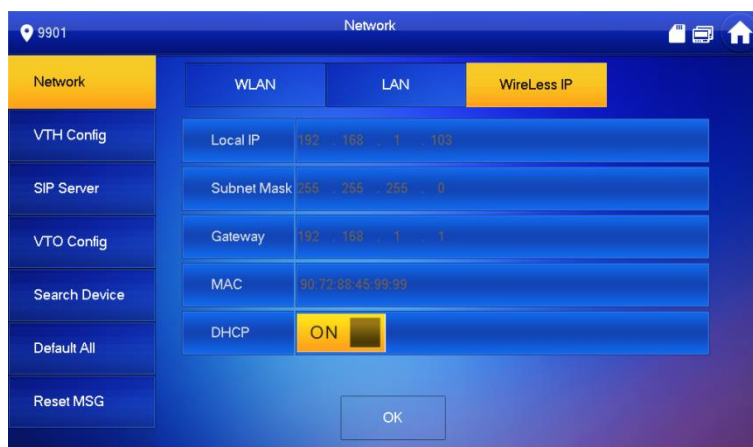

Figure 6-23
- ◇ At “WLAN” interface, select Wi-Fi, click “Wireless IP” tab, press OFF to enable DHCP function and obtain IP info automatically, as shown in Figure 6-23.